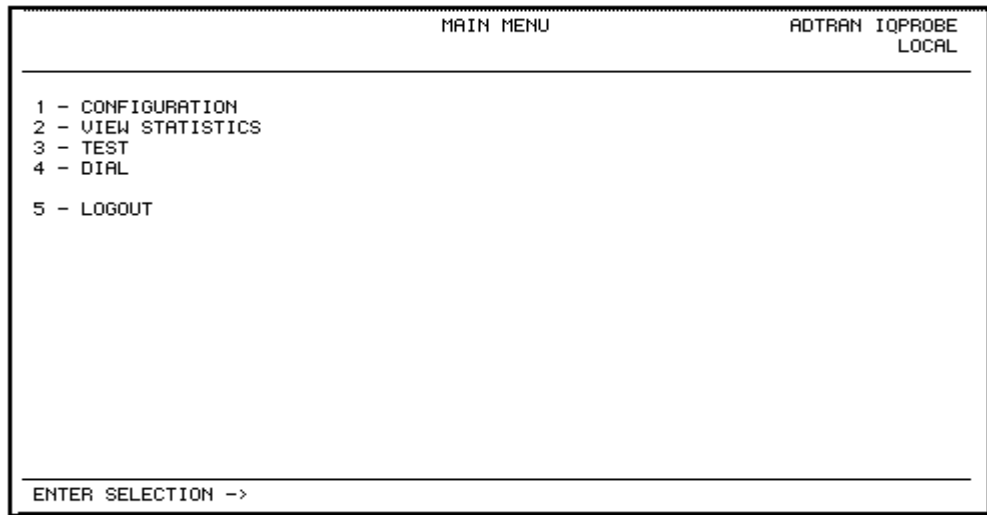

Figure 3-4
5. Enter the password. The factory default password is **adtran**. The Main menu will appear (Figure 3-4).
The opening menu is the access point to all other operations. The Main menu branches are Configuration, View Statistics, Test, Dial, and Logout. See Figure 3-4. Each Main menu item has several functions and submenus to identify and access specific parameters.